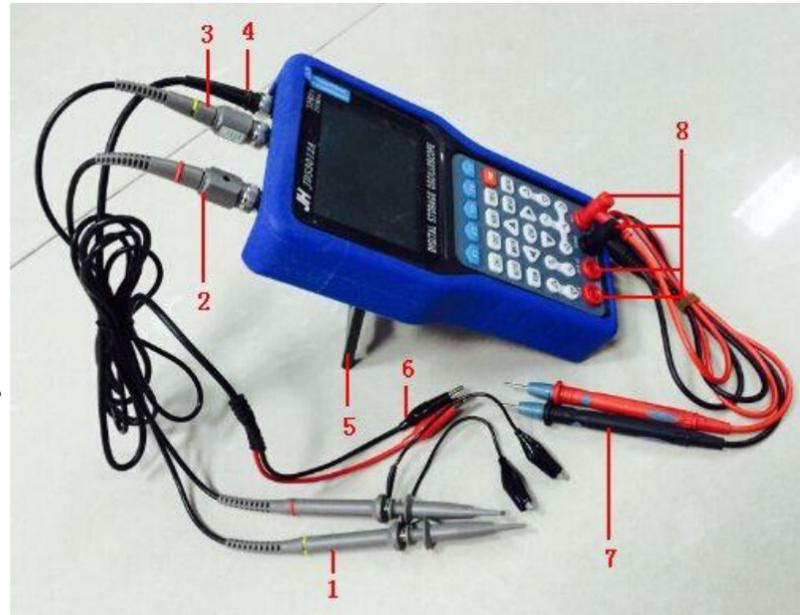

figure 1-3
- Note: figure 1-3 for single channel oscilloscope connected input, dual-channel oscilloscope connected input is from left